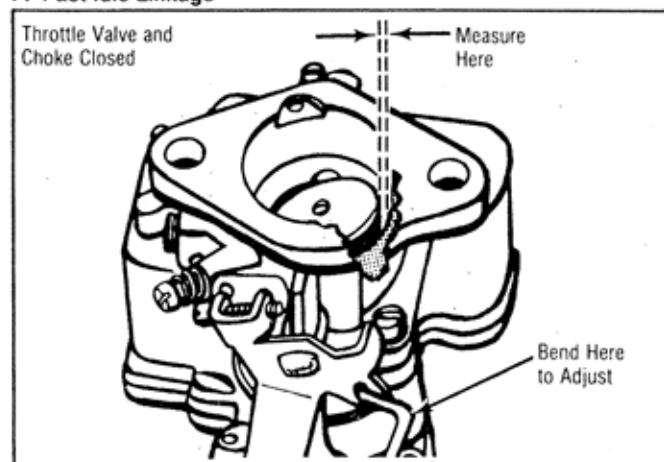

Fig. 7 Fast Idle Linkage Adjustment (Type A - If Equipped)
2. Measure fast idle linkage specified clearance between throttle valve and throttle bore on side opposite idle adjusting screw. See Fig. 7.